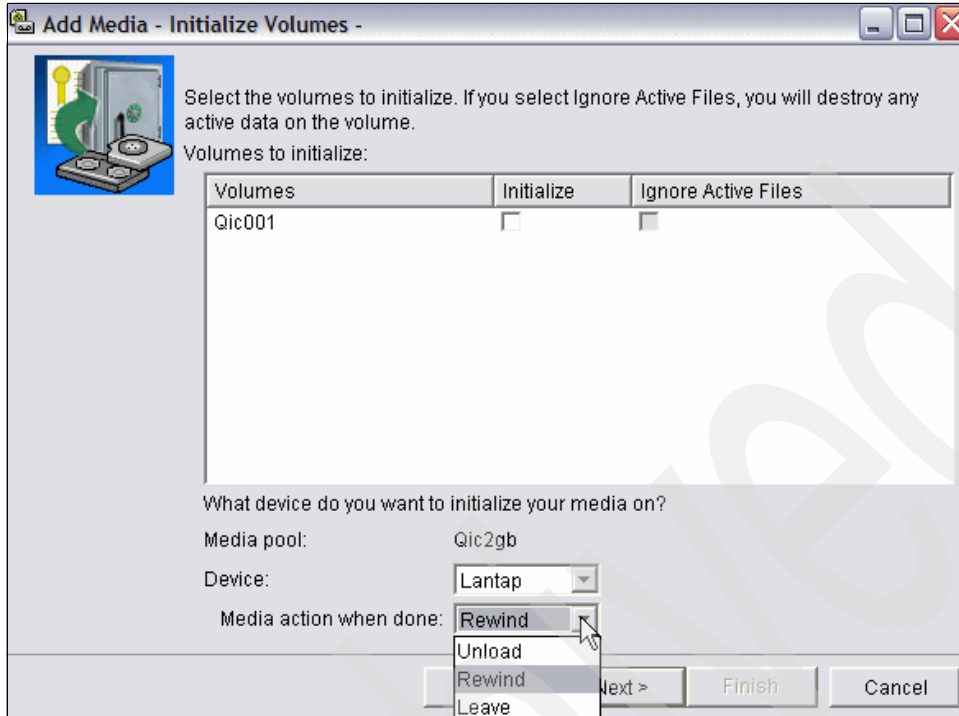

Figure 7-90 BRMS duplicating volumes, add physical media - initialize volumes
6. Initialize volumes in the window shown in Figure 7-90 on page 413.